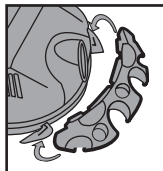

FIGURE 10
8. With rear of unit facing you, take tool holder and position it with tabs facing rear of unit. **FIGURE 10.**